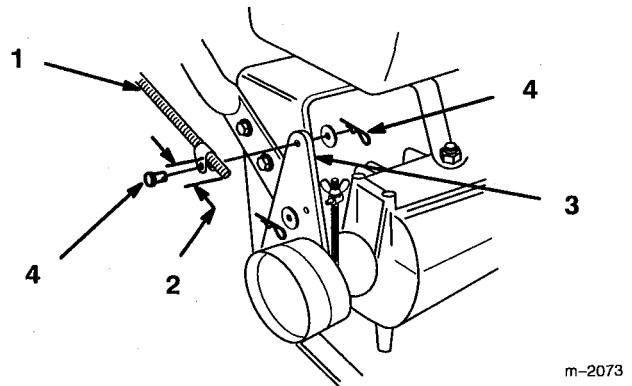

Figure 7
1. Thread rod fittings equal distance onto each control rod. For a starting point thread on approximately 2 in. (51 mm) (Fig. 7).
2. Slide clevis pins through rod fittings and mounting holes in idler brackets (from outside) (Fig. 7). Secure with washers and hairpin cotteners (Fig. 7).